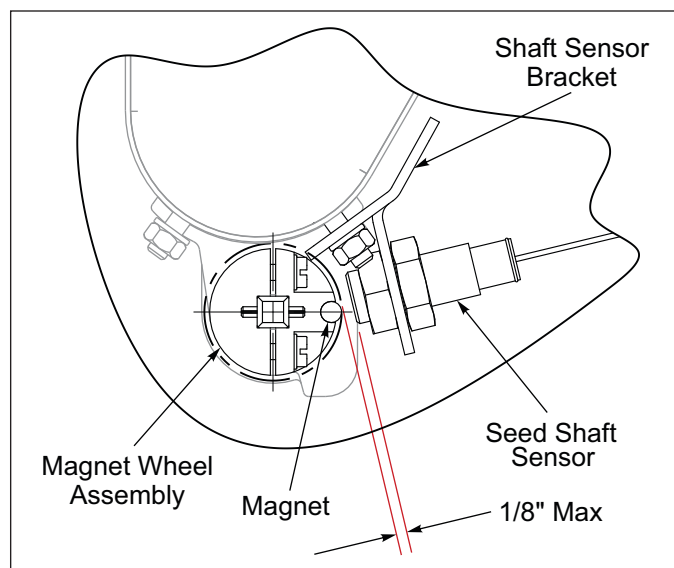

Figure 2-42: Console w/Clutch Control - Seed Shaft Sensor Detail
6. Slide/Position Seed Shaft Sensor so it is 1/8" from the magnet. **See Figure 2-42.** Tighten both retaining Locknuts.